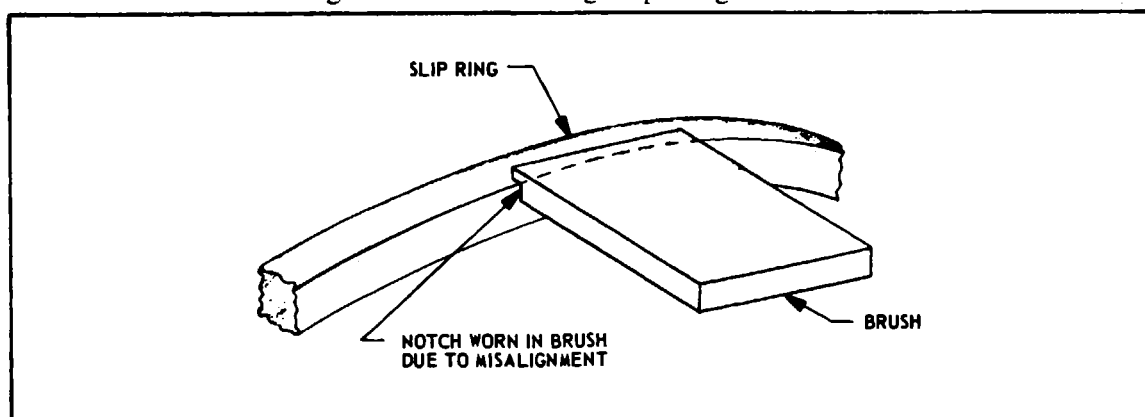

Figure 14-16. Wear Pattern of Misaligned Brush
1. Test that each brush rides fully on its slip ring over 360 degrees. Figure 14-16 shows wear pattern if this condition is not correct. If off alignment, shim under brush block or elongate holes at mounting brackets to raise or lower brush block to proper position. (If brushes ride both high and low in relation to slip rings in 360 degree rotation, the slip ring assembly is eccentrically mounted and the spinner bulkhead must be replaced as in paragraph 14-52.